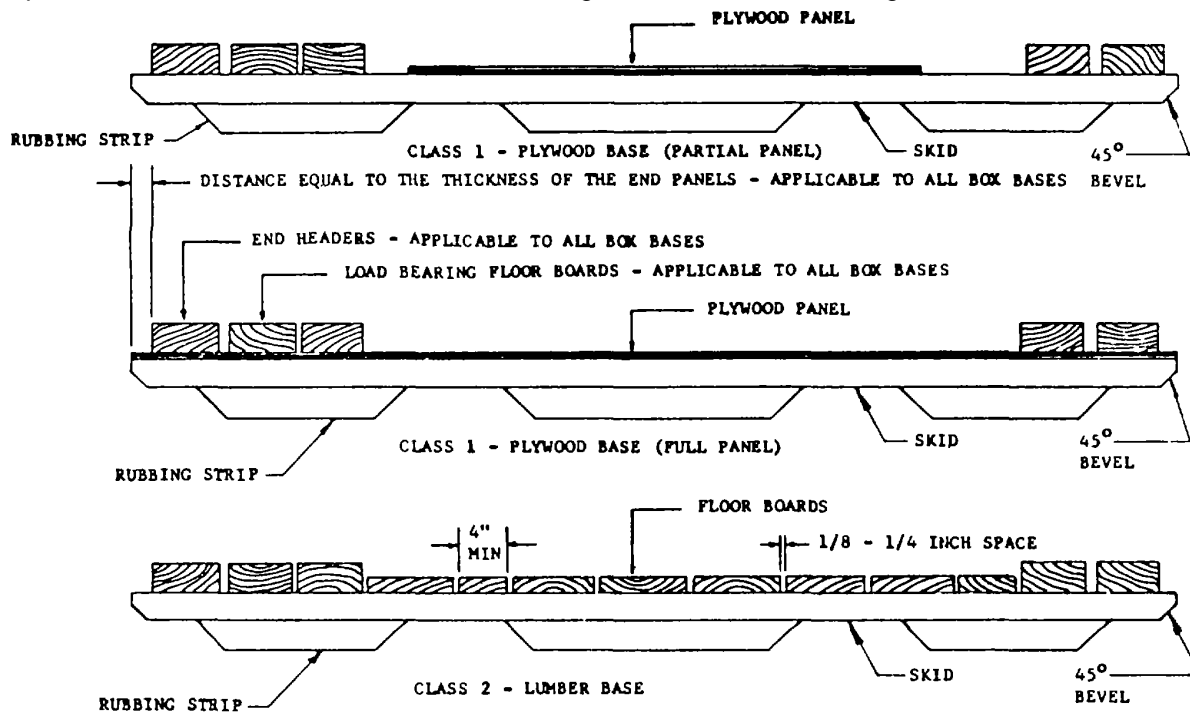

Figure D-2-1. Base Components.
a. Base Components. The base components are illustrated in figure D-2-1. The dimensions of skids are as given in table D-2-1. Skids with rectangular cross sections are to be used flatwise. Two skids are required for boxes whose outside width does not exceed 36 inches. When the outside width exceeds 36 inches, place a third skid equidistant between and parallel with the other skids. Bevel the lower one-third of the ends of each skid and the adjacent corner of the side panel 45°. Select lumber used for load-bearing floor members according to table D-2-2.